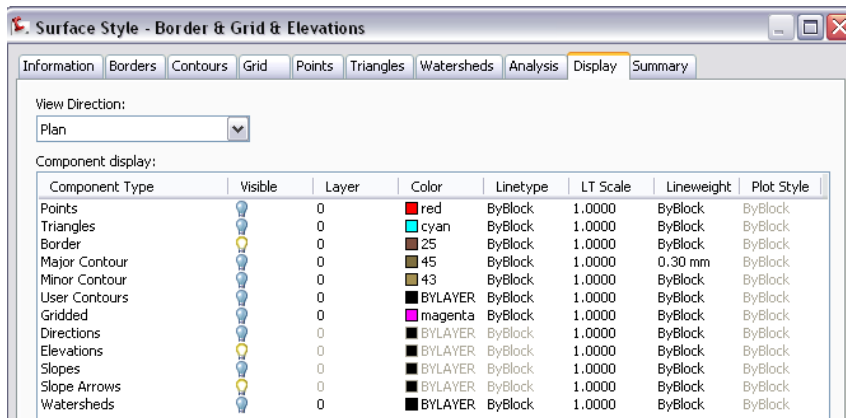

Figure 7: Enable the elevations and slopes components
- 3** Click the light bulb icons to turn on the visibility for the Elevations and Slope Arrows components as shown in figure 7. Keep the Border contour set to Visible.